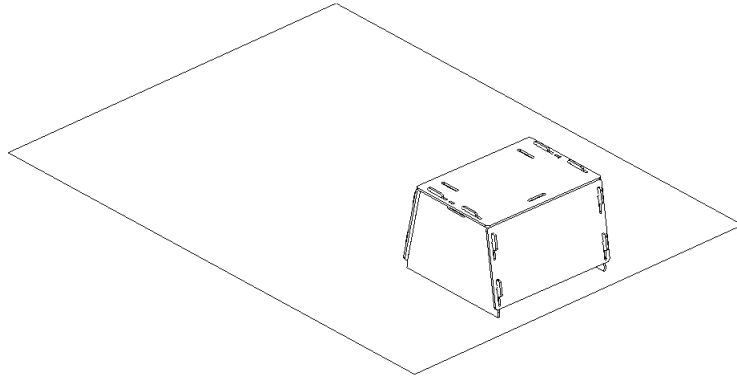

Figure 234: Scanner stand resting on the sheet.
2. Align the scanner stand with the rectangle marked on the sheet, paying close attention to the orientation of the slots in the stand cover (see Figure 234).